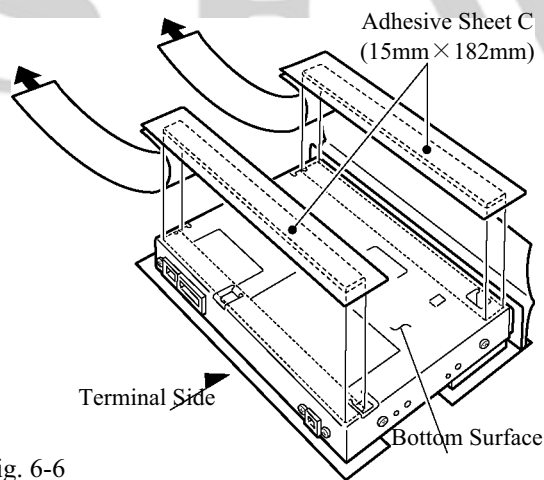

Fig. 6-6
(2) Attach two adhesive sheets C to the tuner (Fig. 6-6).